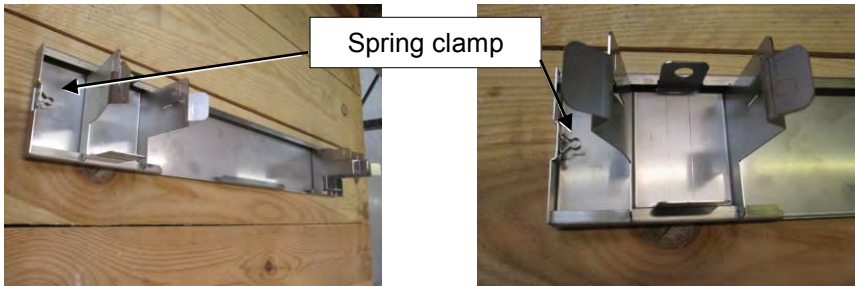

Fig. 58: Spring clamp
15. Attaching the side sections of the foot panelling on the top device. Check beforehand whether spring clamps have been used as clamp connectors in the side sections, and insert them as necessary (Fig. 58 to Fig. 59).